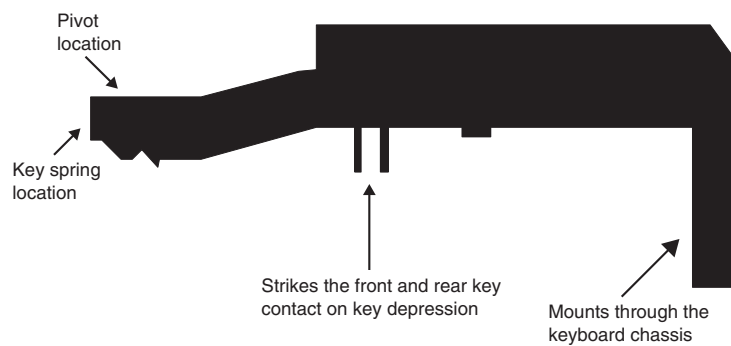

Figure 4-13 Sharp/Black key, 76-note keyboard
5. Lift the key up slightly, then forward. You should be able to feel when the key is free of the pivot. A portion of the key hooks onto the keyboard chassis (see Figure 4-13). Lifting the back end of the key forward unhooks the key from the keyboard chassis.